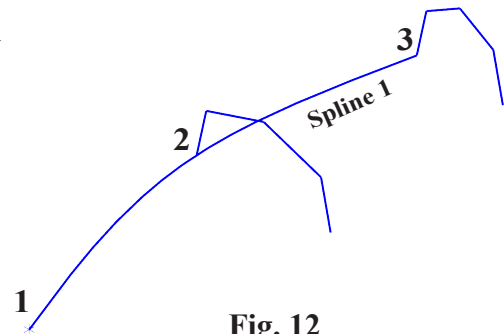

Fig. 12
Step 2. Sketch spline across the ends of ribs and Point, **Fig. 12**. Start with the **Point 1**, middle rib **2** and finish with rear rib **3**. Be sure to snap to endpoint of rib lines. Press ENTER to end spline.